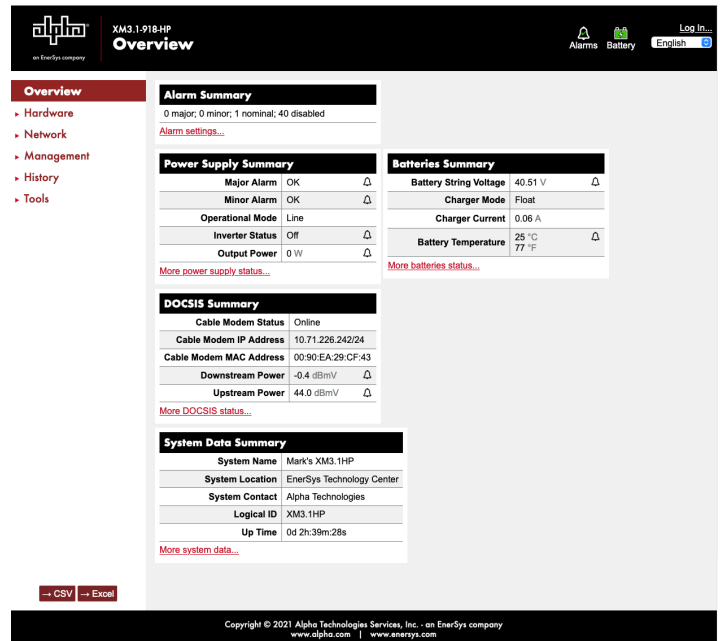

Fig. 2-28, XM3.1-HP™ Power Supply Overview Web Page
4. The transponder's web server home page will appear (Fig. 2-28). **Note: This may take up to a minute when the transponder is initially powered up.**